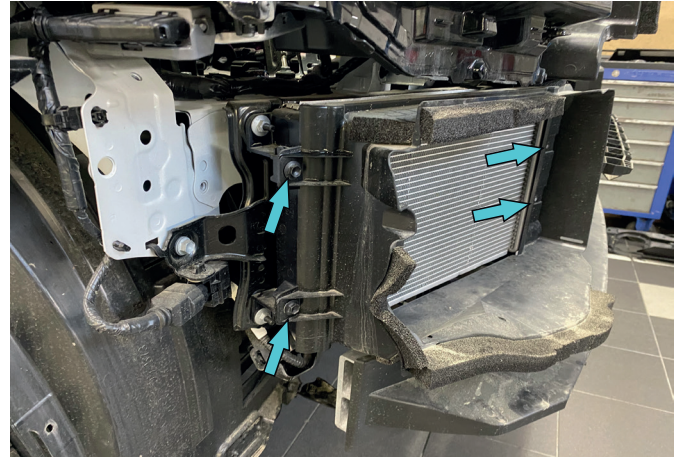

Fig.14
14. Remove OE plastic cover on both sides of the vehicle (fig.14).